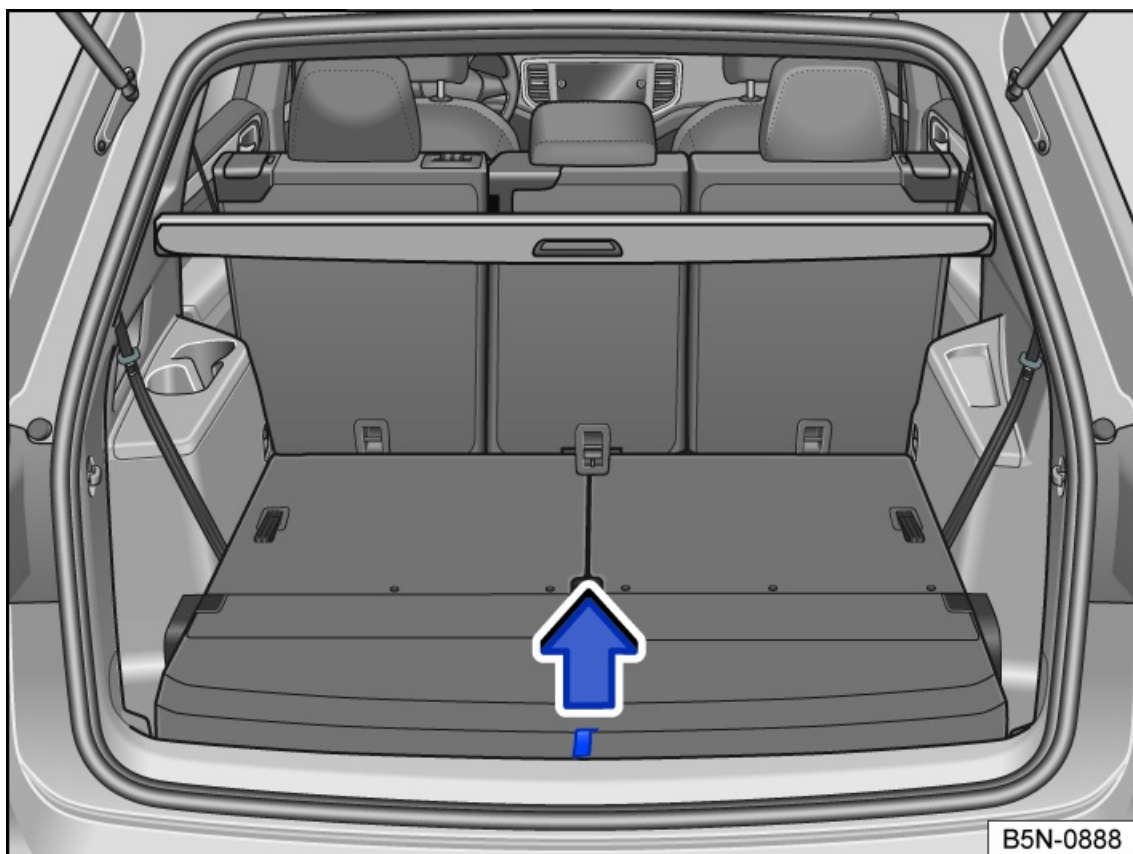

Fig. 174 In the luggage compartment: Lifting up the luggage compartment floor.
1. Pull the luggage compartment floor upwards by the tab fig. 174 in the direction of the arrow and remove it.